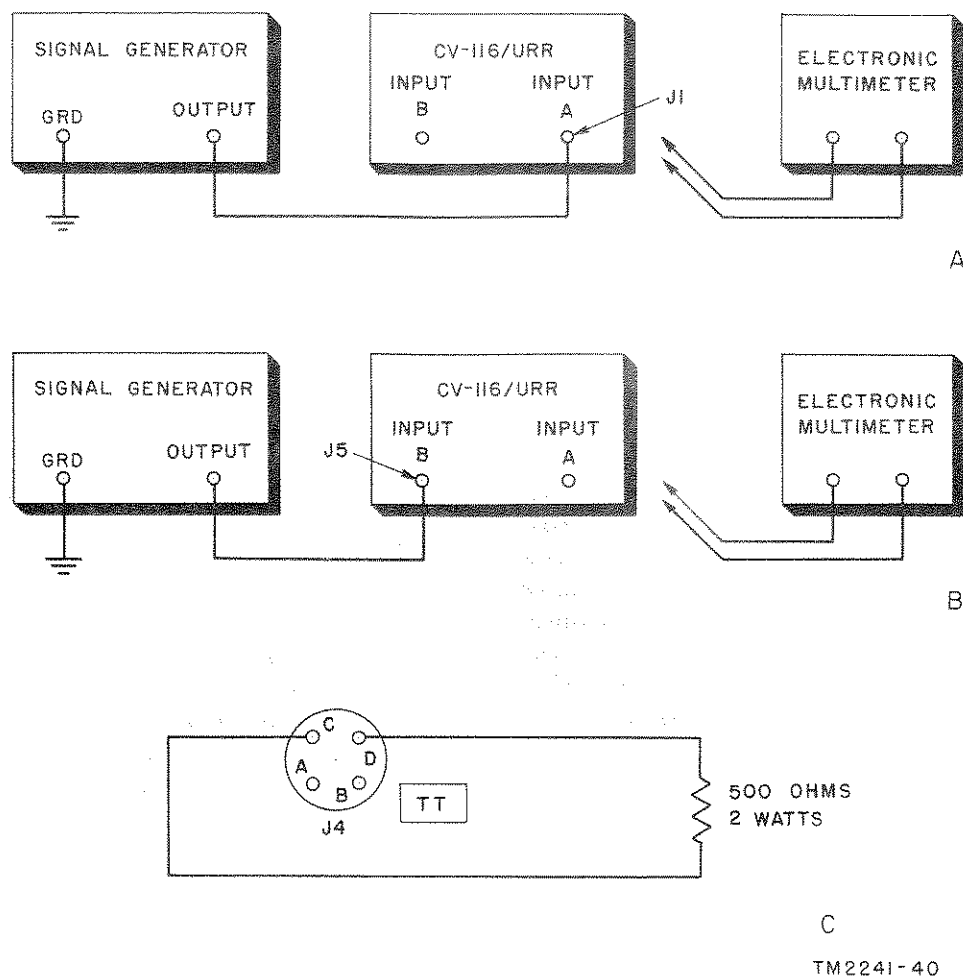

Figure 44. Setup for troubleshooting equipment when divorced from system.
a. General. With the converter divorced from the teletypewriter system, troubleshooting can be performed with a minimum of equipment and parts. In addition to the equipment shown in figure 44, Frequency Meter Set SCR-211 is required.
b. Components and Connections Required. Connect RF Signal Generator Set AN/URM-25 to INPUT A or INPUT B as shown in figure 44(A) or (B). Connect a 500-ohm, 2-watt resistor to J4 as shown in figure 44(C). This resistor replaces the output loop so that the converter may be operated under simulated operating conditions. The signal generator should be set to the frequency normally fed to input jacks J1 and J5 by the radio receivers used with the converter in actual operation. Resistance and voltage measurements require an electronic multimeter such as Electronic Multimeter TS-505/U.
- (1) To check the output voltages of the power supply, turn the metering switch knob successively to the positions indicated, depressing the PRESS TO TEST switch, and see that the readings are within the limits shown in the chart below.